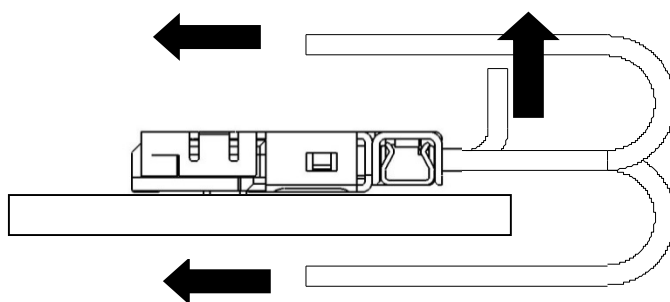

Fig.16
- Continuous force of the direction shown in black arrow in Fig. 16 can damage connectors or cause the coming off from receptacle connector. Please be careful NOT to apply such force.